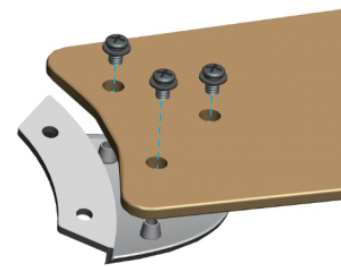

Fig 1.1
1.1 Locate 15 blade attachment screws in the hardware pack. Secure each blade to the blade bracket with the screws as shown in Fig 1.1.